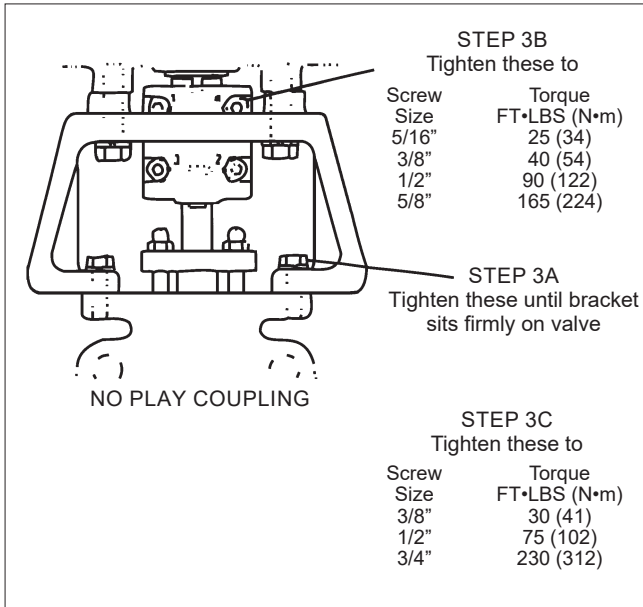

Figure 16
4. Lower actuator and bracket onto valve while engaging actuator stem driver into coupling. Tighten screws just enough to firmly mate bracket to valve. This should allow bracket to shift, allowing the coupling to align the valve and actuator shafts (See Figure 16, Step 3A.)
5. Tighten the no-play coupling screws to torques shown in (Figure 16, Step 3B). Use alternating sequence shown.
7. Fully tighten the screws holding the bracket to the valve, as shown in (Figure 16, Step 3C).
8. Recheck no-play coupling screw torques, using the torques in (Figure 16, Step 3B). Use alternating sequence shown.